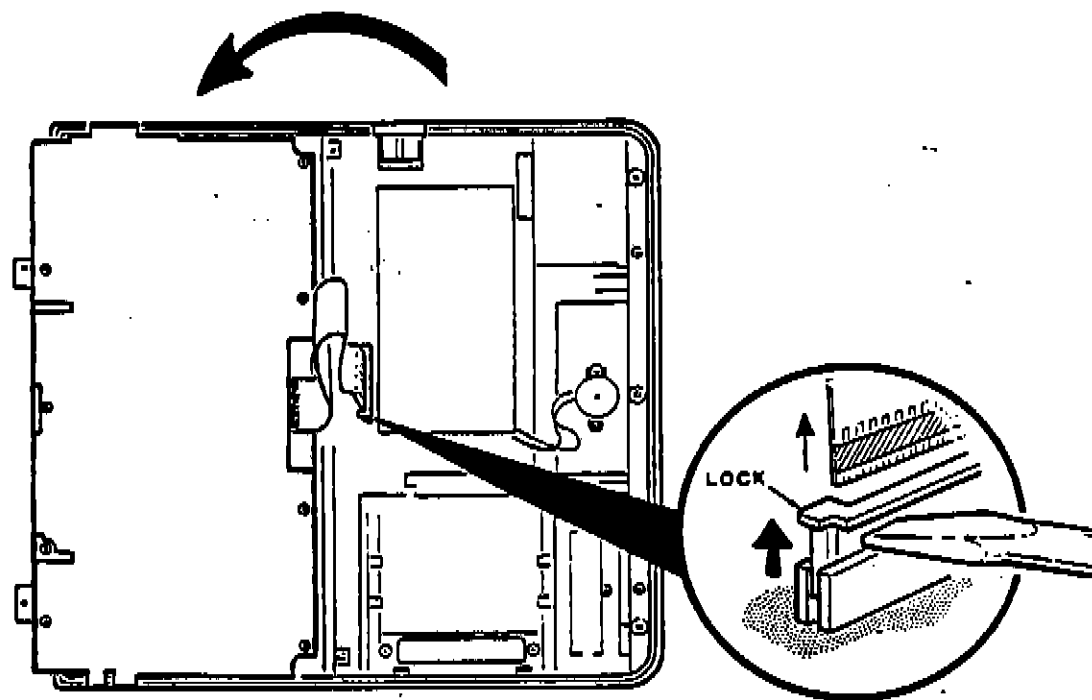

Figure 3-7. Removing the Keyboard
3. Lift the keyboard and lay it face down on the drives, as shown in Figure 3-7.
4. Use a small flat-blade screwdriver to lift the lock of the main board connector CN13 and pull the keyboard ribbon cable from the connector, as shown in the inset of Figure 3-7. Set the keyboard aside.